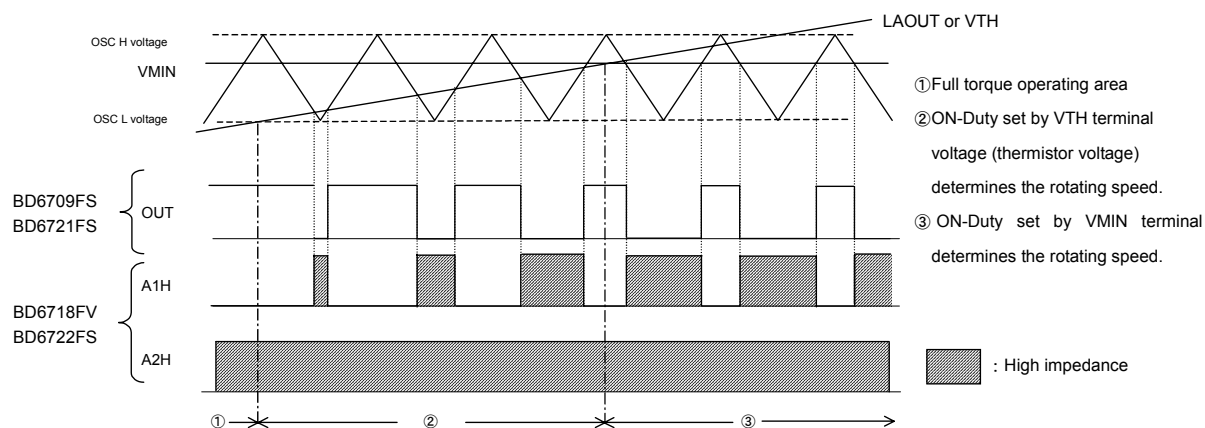

Fig.73 DC input PWM operation timing chart
As shown in Fig.73, DC voltage input from LAOUT(BD6709FS, BD6721FS), or DC voltage input from VTH(BD6718FV, BD6722FS) are compared with triangle wave produced by charging and discharging current to the capacitor connected to COSC to change ON-DUTY.
(Same as area ① in Fig.73)
(Same as area ② in Fig.73)
(Same as area ③ in Fig.73)